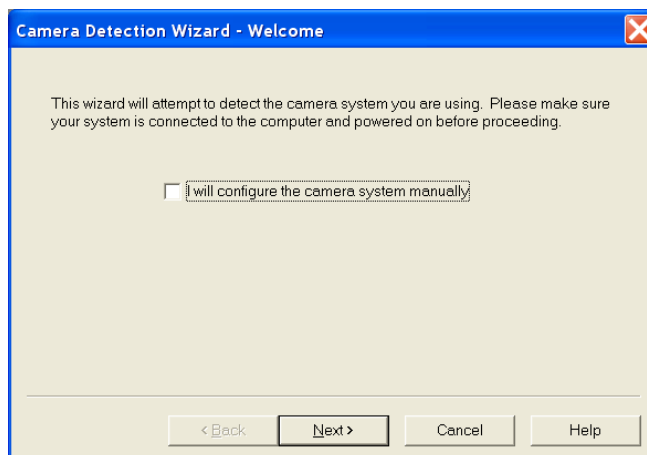

Figure 9. Camera Detection Wizard - Welcome dialog
3. On the **Welcome** dialog (Figure 9), leave the check box unselected and click on **Next**.